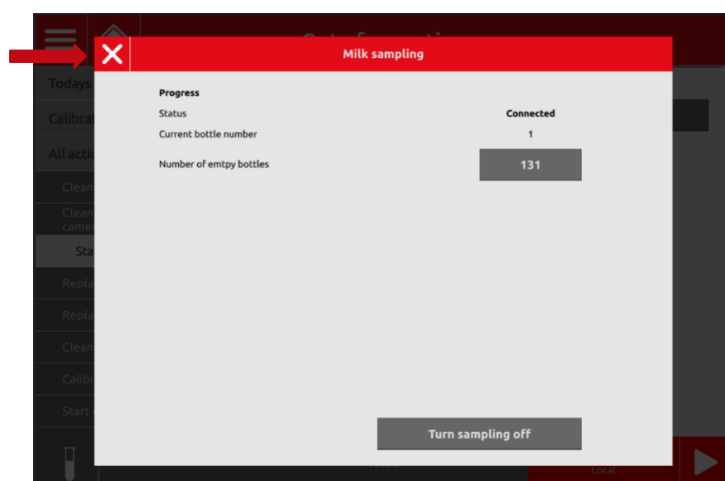

Figure 33. Milk sampling menu
7. The session is ready for sampling. Click on the cross, see the figure 33